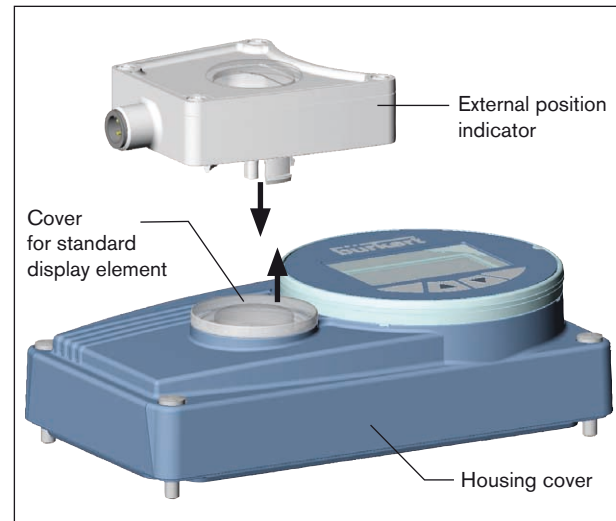

Fig. 2: Connecting external position indicator
- Gently pull the cover of the standard position indicator out of the housing cover (see Fig. 2:).
- Place the external position indicator in the round recess of the housing cover and press down until it engages (see Fig. 2:).